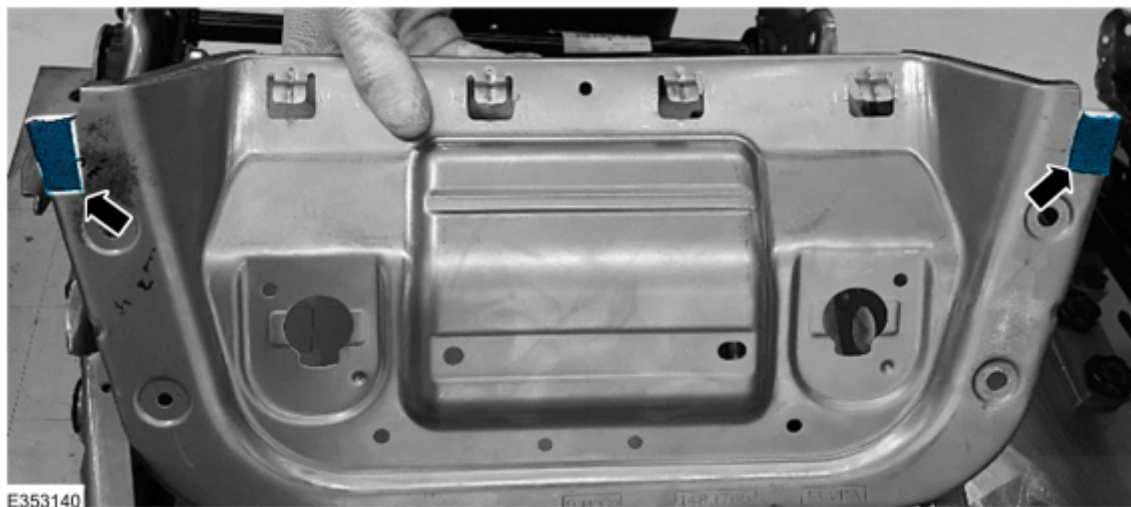

Figure 6
- (2). Rotate the half pan and attach the remaining felt as shown. (Figure 6)